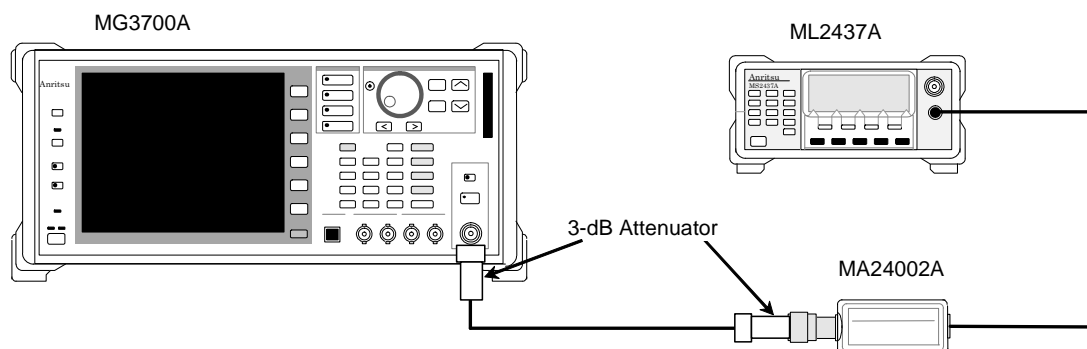

Figure 5.3.1-1 Signal Generator Calibration Setup (MOD)
1. Setup the instruments as shown in Figure 5.3.1-1.